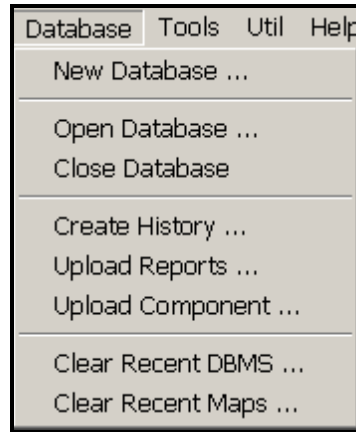

Figure 16. Database Menu
As shown in Figure 16, the **Database** menu contains eight (8) choices, which are discussed in detail below.